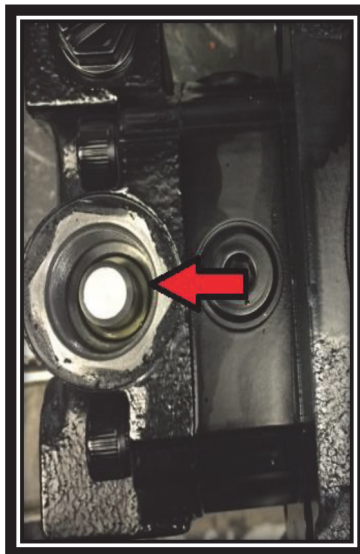

FIG. 3-2
4. Once the cover is removed you will have exposed both the spool and spring. Remove the spring and place in a clean, dry location. Retain for re-use. NOTE: Some oil will drain from this location upon removal of the cap. Be prepared as the spool may slide out on its' own due to gravity. Refer to FIG. 3-2.